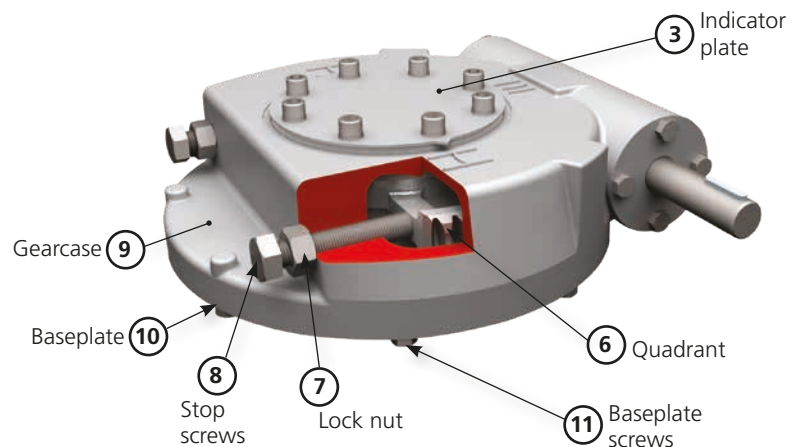

Figure 6 – Setting stop-bolts
Close the valve, using the actuator where applicable. Referring to Figure 6, use the indicator plate (3) pointer as an indication of position.